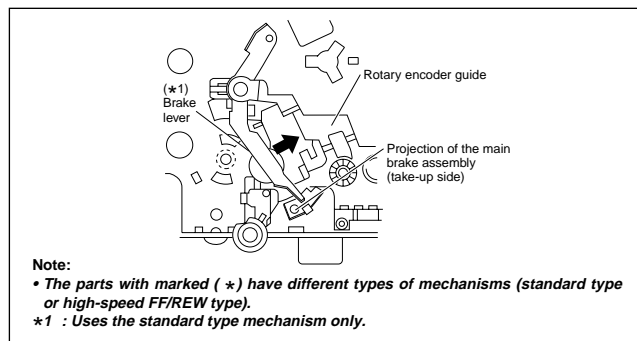

Fig. 2-2-20b
- (5) When installing the main brake assembly (take-up side), slide the brake lever in the direction as indicated by the arrow to prevent it from hitting the projection of the main brake assembly (take-up side). (See Fig.2-2-20b.)